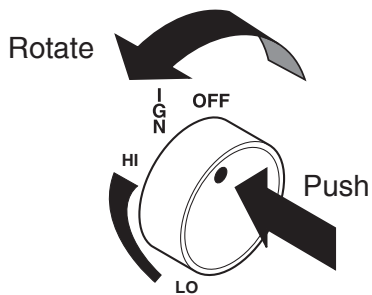

Figure 36 - IGN Position
6. From OFF position, push in gas control knob slightly and turn counterclockwise  to the IGN position. *Figure 36*. Push in and hold control knob for 5 seconds.